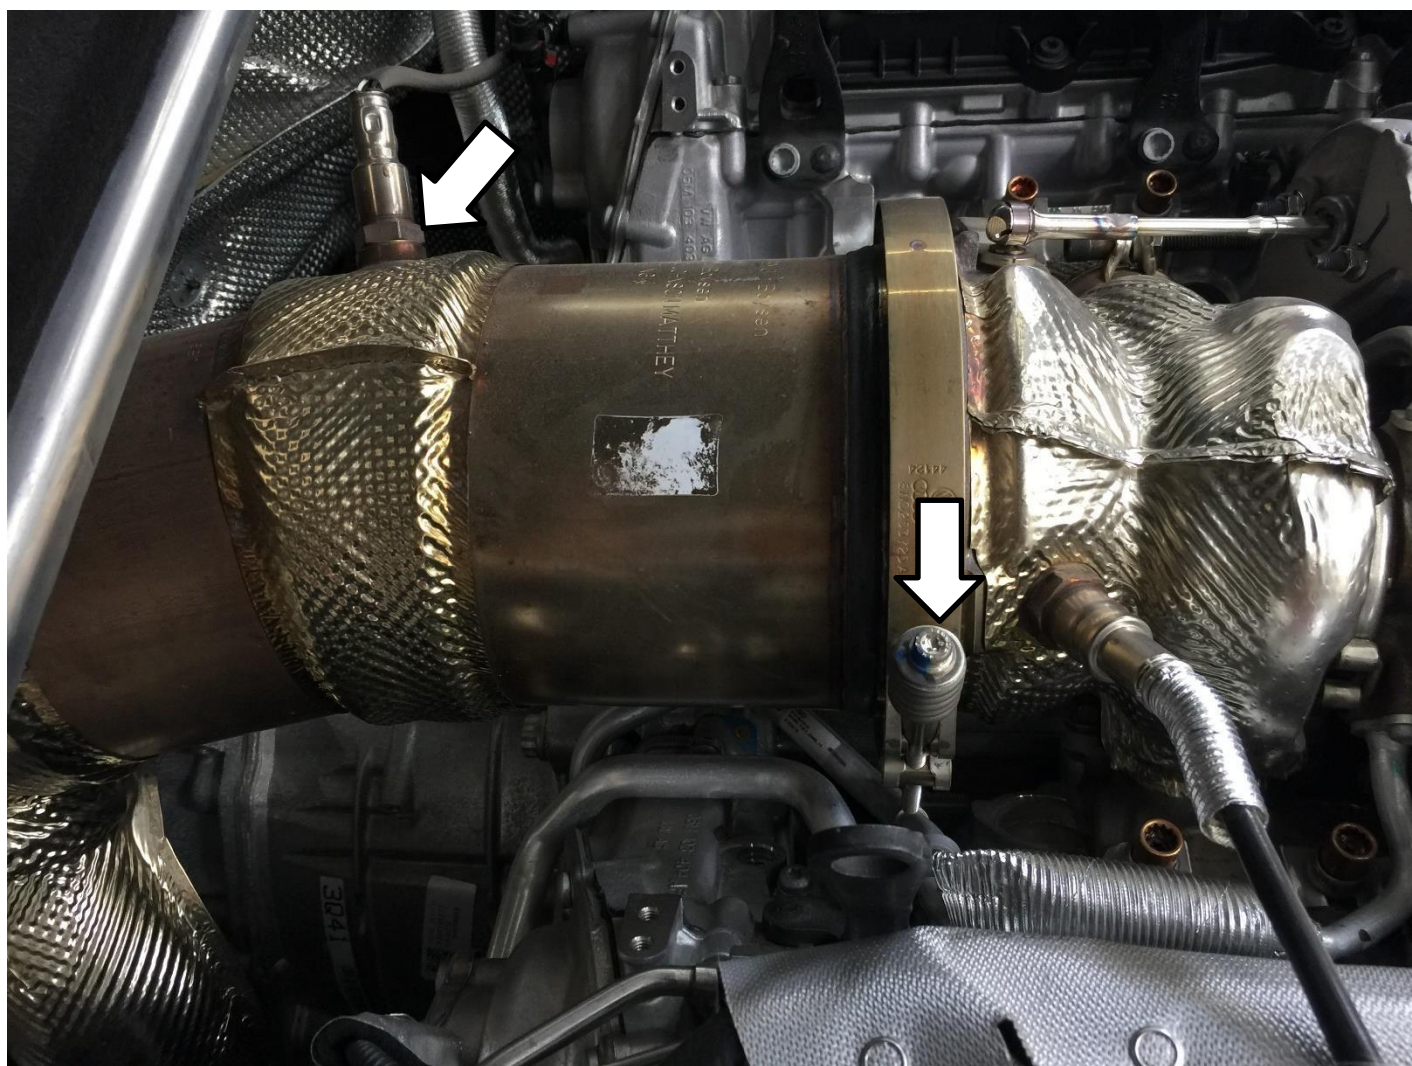

Fig. 9
7. In order to remove the cat pipe, remove the cat pipe clamps and rear oxygen sensor first. (Fig.9)